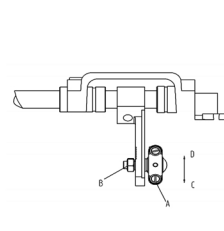
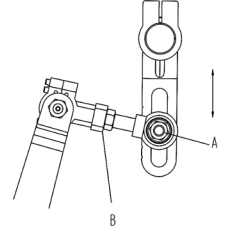

图31 (Fig.31)
图32 (Fig.32)
1. 取下上盖, 拧松连杆(A)上的螺帽(B)。(图31)
3. 微调时, 放松螺帽(A)将连杆(B)上下移动, 往上量多。(图32)
1. Take off cover and Release nut (B) on connector (A)。(Fig.31)
2. Move connector (A) back and forth for more or less feeding length, toward (C) direction reduce feeding length。
3. For micro adjustment, release nut (A) and move connector (B) upward for longer and downward for shorter feeding length respectively。(Fig.32)